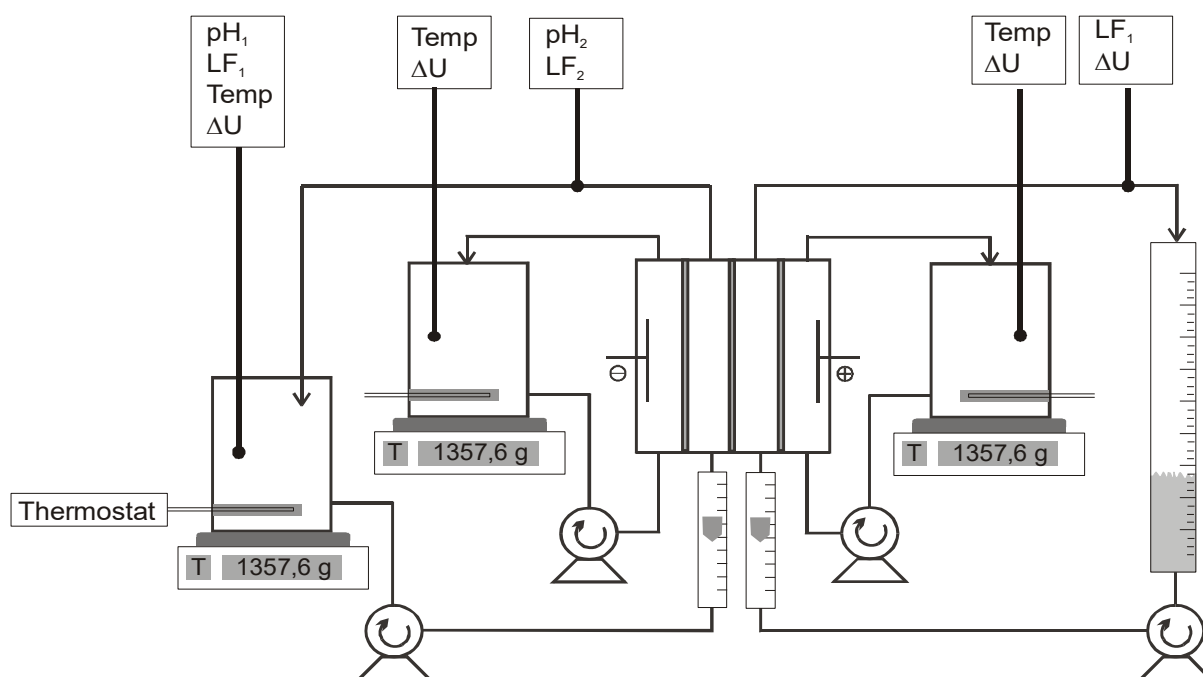

Fig. 20: An exemplary setup of an ED unit with four different pumps.
- Connect the diluate tank of your ED system (see Fig. 20) to the circulating pump inlet,
- Connect the electrolyte tank of your ED system (see Fig. 20) to the circulating pump inlet,
- the Electrolyte pump outlet is connected to the inlet of the anolyte chamber (6),
- the anolyte outlet (7) is connected to the catholyte inlet (2),
- the catholyte outlet (3) goes back to the tank.
According to this procedure, the anolyte chamber and the catholyte chamber are connected in one circuit, which implies that just one reservoir is required for both electrode circuits. If necessary, separate circuits for both electrodes can be established, as shown in Fig. 20.